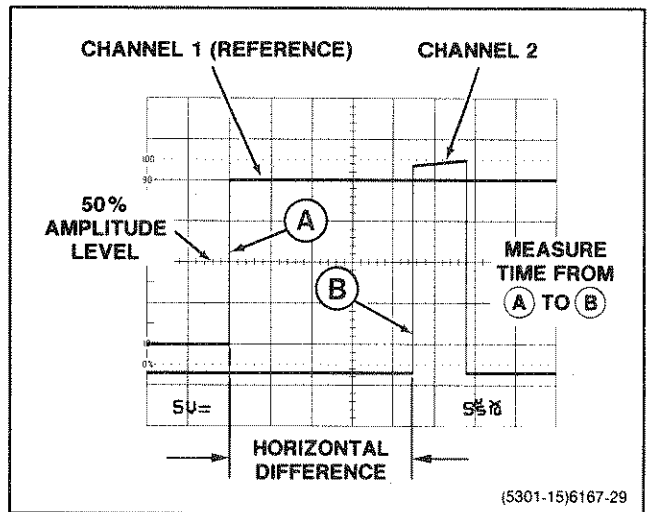

Figure 6-7. Time difference between two time-related pulses.
9. Set the SEC/DIV switch to a sweep speed which provides three or more divisions of horizontal separation between the reference points on the two displays. Center each of the displays vertically (see Figure 6-7).